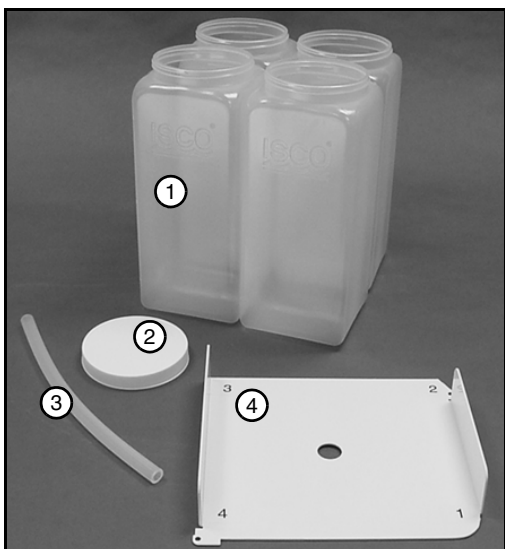

Figure 1-3 4-Bottle kit
4. Install the 4-bottle adapter plate in the refrigerated compartment. The bottom of the compartment has two posts that ensure the plate is oriented correctly. See Figure 1-3.